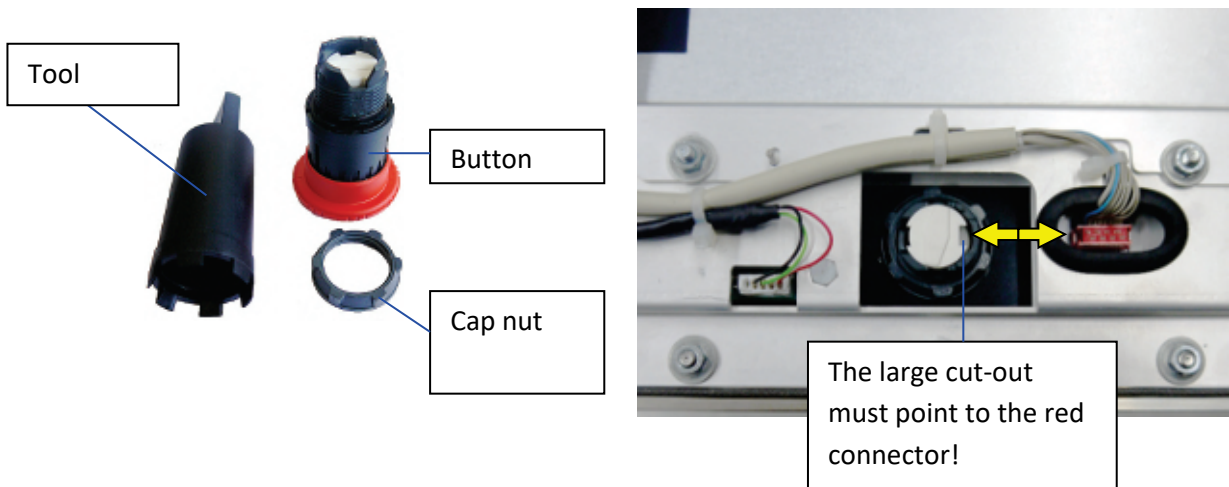

Fig. 43: Button of the emergency stop switch
2. Loosen and remove the plastic cap nut from the button of the emergency stop switch using an appropriate tool (see Fig. 43) and pull the button out (from the outside of the glass front).
3. When inserting the new button, make sure that the large cut-out of the inner part of the button points in the direction of the red connector (see Fig. 43).